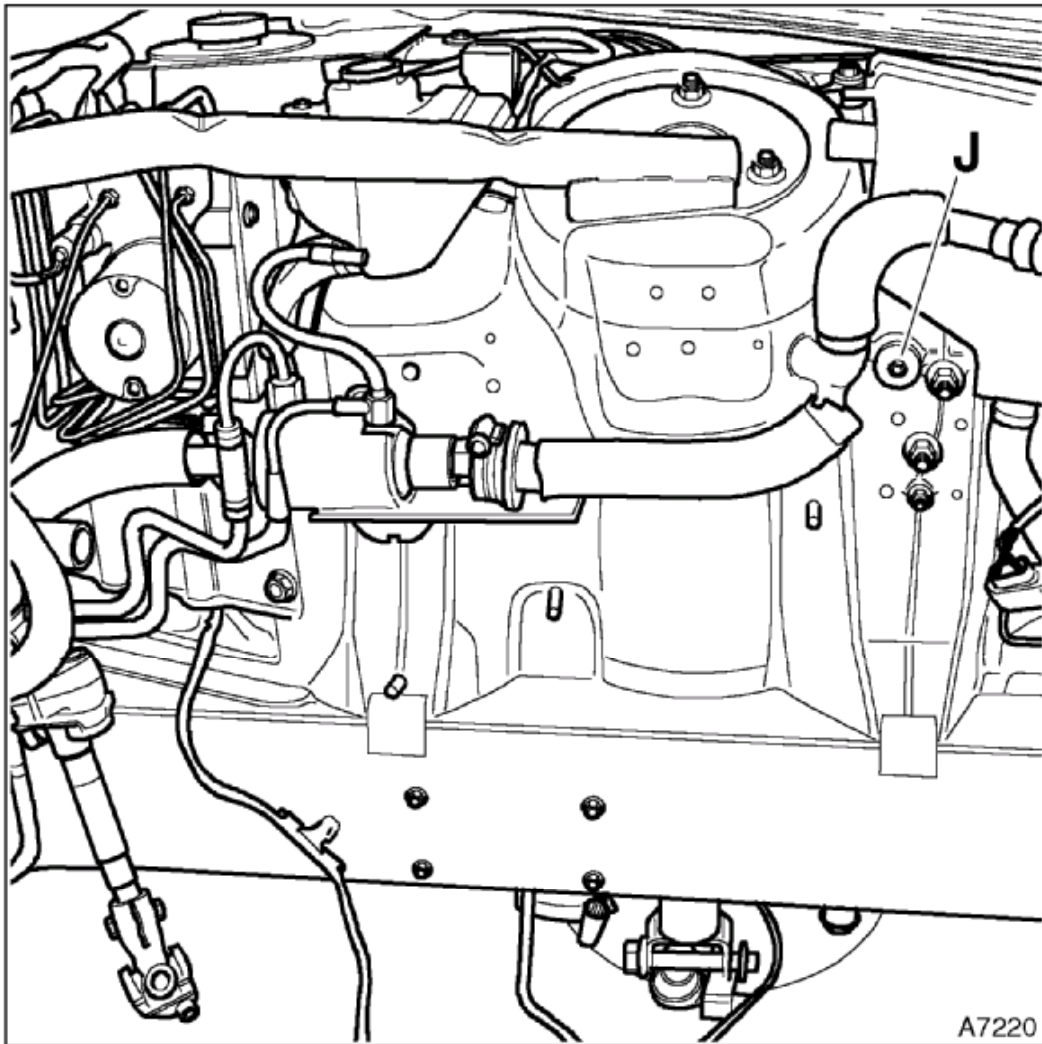

Figure. 6
15. Remove fridge pipe clip retaining bolt J, from inner wing. See figure 6.